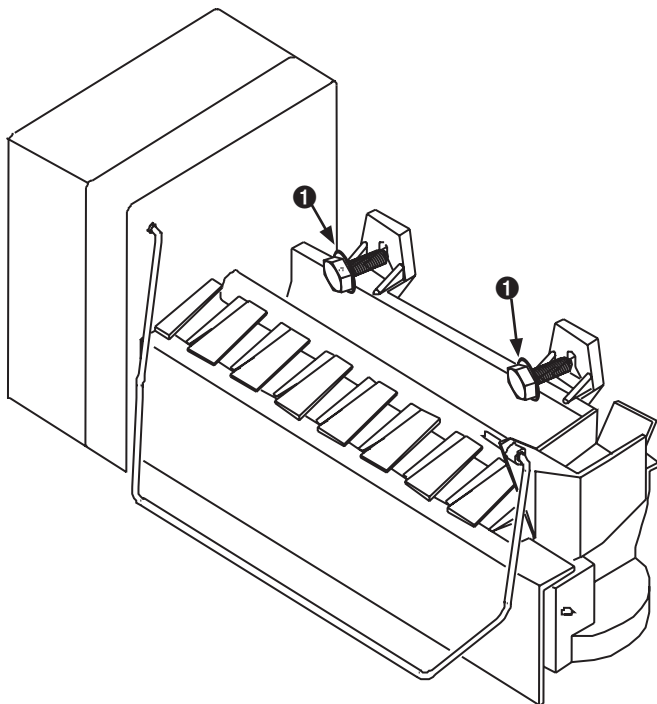

Figure 9-17. —Ice maker fasteners and back plate.
4. Remove two ice maker mounting screws. Shown in Figure 9-17, ①.